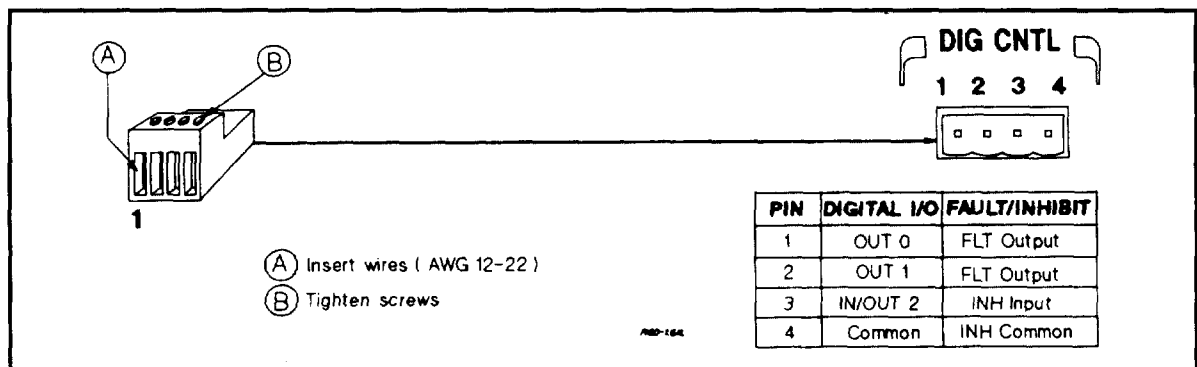
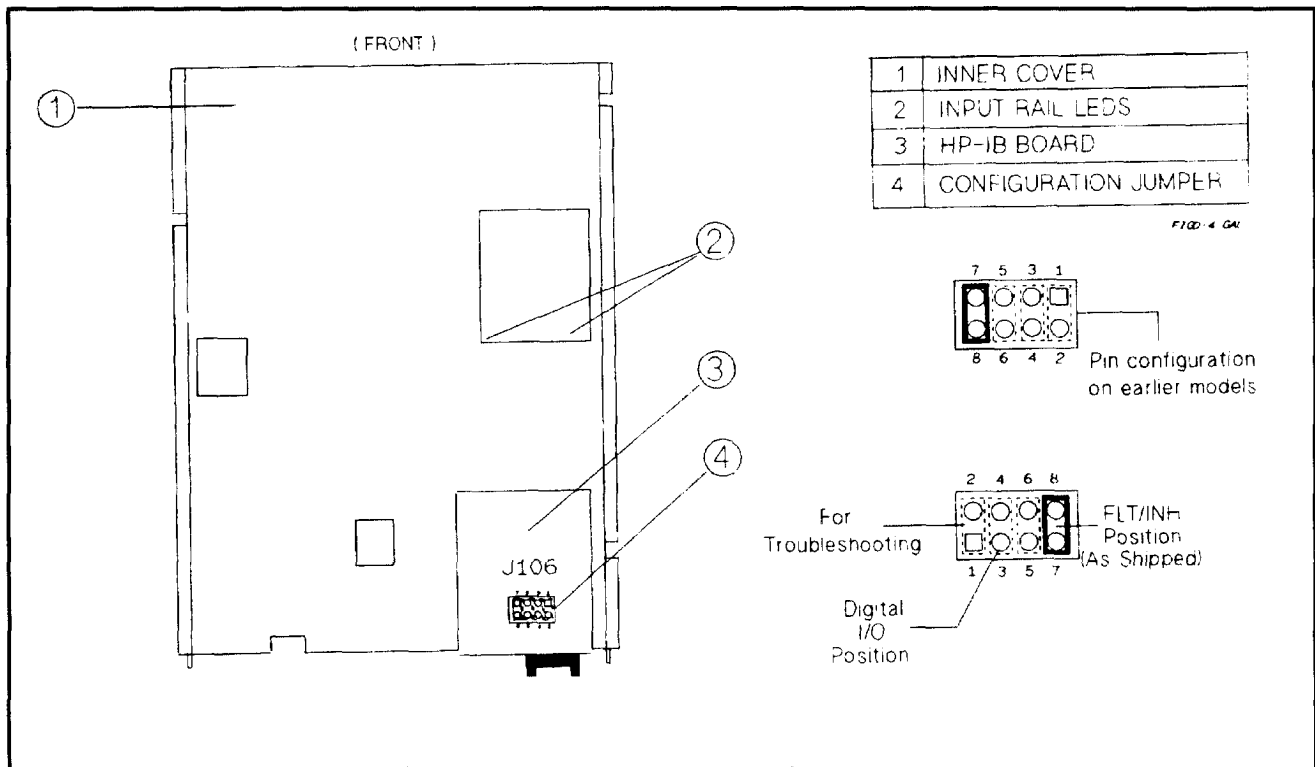
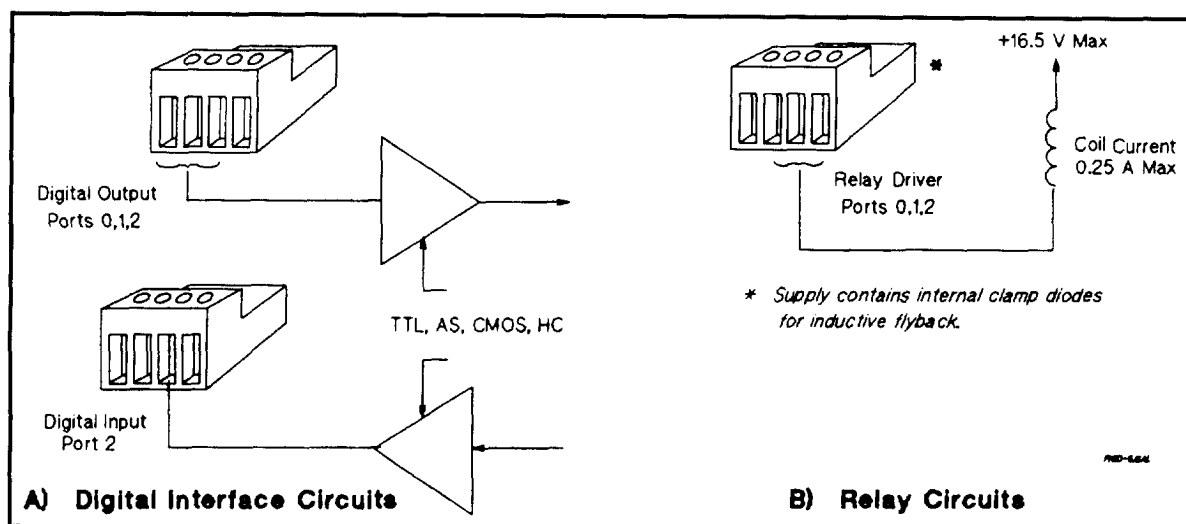

Figure D-1. Digital Port Connector
Figure D-4. Digital Port Configuration Jumper
Figure D-5. Digital I/O Port Applications
A 4-pin connector and a quick-disconnect mating plug are provided for digital input and output signals (see Figure D-1 for wiring connections and Table 1-5 in Chapter 1 for electrical characteristics). This digital port can be configured to provide either Fault/Inhibit or Digital I/O functions.
As shipped from the factory, the digital port is configured for FLT/INH operation. You can change the configuration of the port to operate as a general-purpose digital input/output port to control your custom circuitry as shown in Figure D-4. To change the port configuration, you must move a jumper on the HP-IB board.
5. Refer to Figure D-4 and use needle-nose pliers to move the jumper to the Digital I/O position.
The digital port can be configured (see Figure D-4) to provide a digital input/output to be used with custom digital interface circuits or relay circuits. Some examples are shown Figure D-5. See Figure D-1 for the pin assignments of the mating plug and Table 1-5 for the electrical characteristics of the port. See **DIG:DATA[:VAL]** in "Chapter 3 - Language Dictionary" of the Programming Guide for information on programming the port. The digital port pins are as follows:
The digital port can be configured to provide relay control outputs for the HP 59510A or 59511A Relay Accessory. Refer to Figure D-1 for the pin assignments of the mating plug.